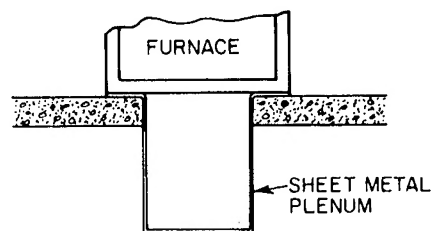

Fig. 4 — Furnace on a Concrete Slab
- Place plenum and furnace as shown in Fig. 4.